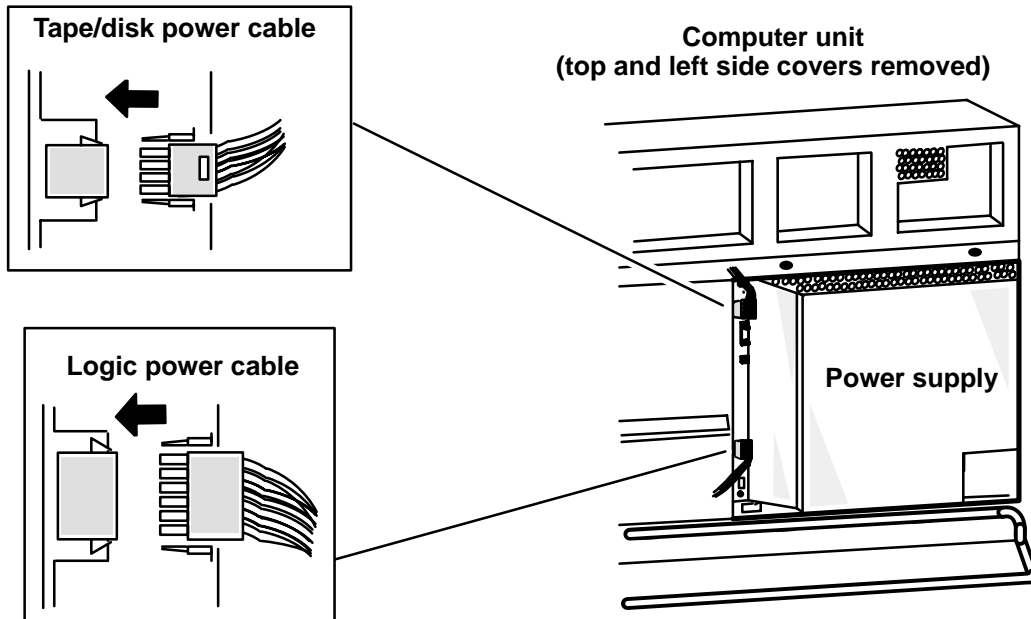

Figure 12-8 Connecting the Tape/Disk Power and Logic Power Cables
5. Plug the tape/disk power and logic power cables into the power supply as shown in Figure 12-8.